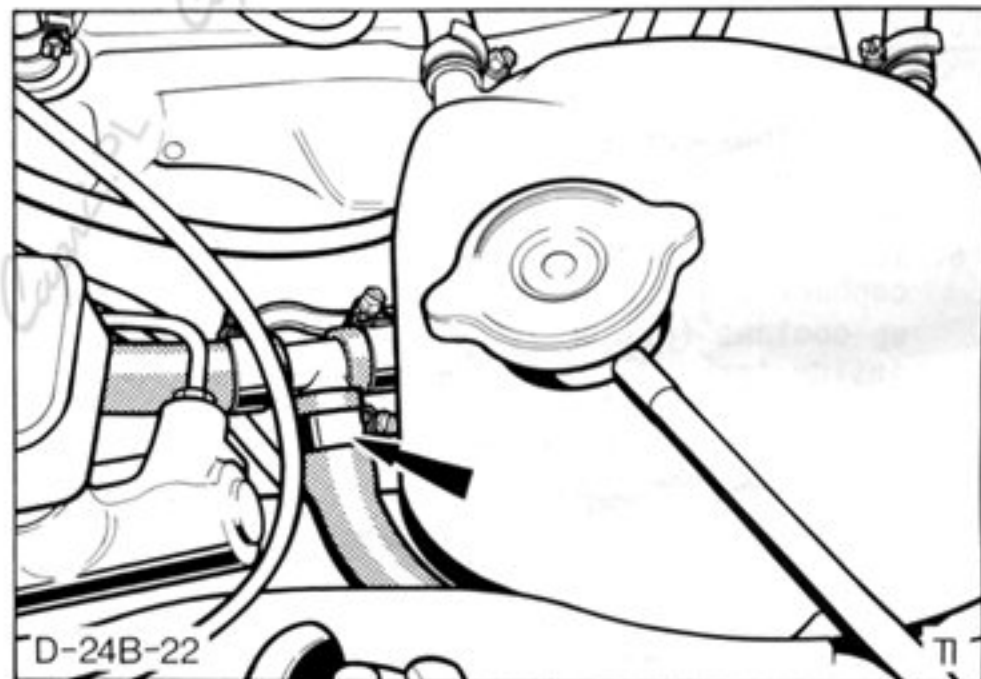

Fig.30. Tank hose to heater return hose connector.
6. Loosen 'T' connector hose clamp and remove hose, Fig.30.